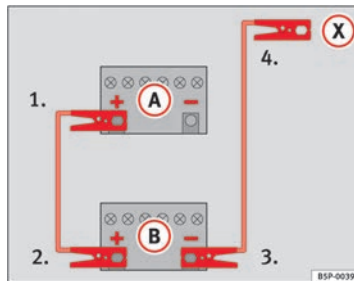
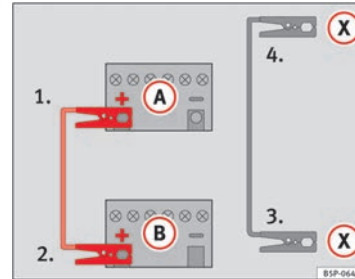

Fig. 178 Diagram of connections for vehicles without Start-Stop system
Fig. 179 Diagram of connections for vehicles with Start-Stop system
- Connect one end of the *red* jump lead to the positive (+) terminal of the vehicle with the flat battery (A) ⇒ Fig. 178.
- Connect the other end of the *red* jump lead to the positive terminal (+) in the vehicle providing assistance (B).
- Connect one end of the *black* jump lead to the negative terminal (-) of the vehicle providing assistance (B) ⇒ Fig. 178.
- Connect the other end of the *black* jump lead (X) to a solid metal component bolted to the engine block or to the engine block itself of the vehicle with the flat battery. However, connect it to a point as far as possible from the battery (A).
- Connect one end of the *red* jump lead to the positive (+) terminal of the vehicle with the flat battery (A) ⇒ Fig. 179.
- Connect one end of the *black* jump lead (X) to a suitable ground terminal, a solid piece of metal in the engine block, or to the engine block ⇒ Fig. 179.